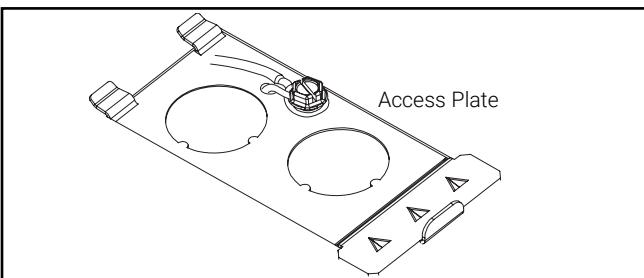
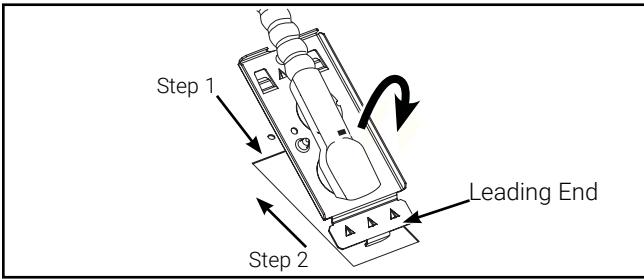

Figure 4.
Figure 5.
5. Remove electrical access plate and remove necessary knockouts from access plate for attachment of electrical supply cable (Figure 4. and Figure 5.).
Grounding conductor (if insulated) to be stripped min. 1". Insert end of wire into small hole. Wrap wire under and around head of screw counter-clockwise (Figure 4.). Tighten screw.
- Step 1: To insert access plate, rotate until leading end is inside the wireway (Figure 5.).